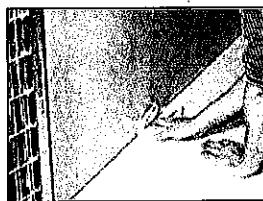

Figure 34
1. Use a primer or Isopropyl Alcohol (Make sure to read health hazard information) to clean all the corners, cracks, edges, and areas that need to be sealed. This should remove any dust or oil that would inhibit good adhesion (**Figure 34**).